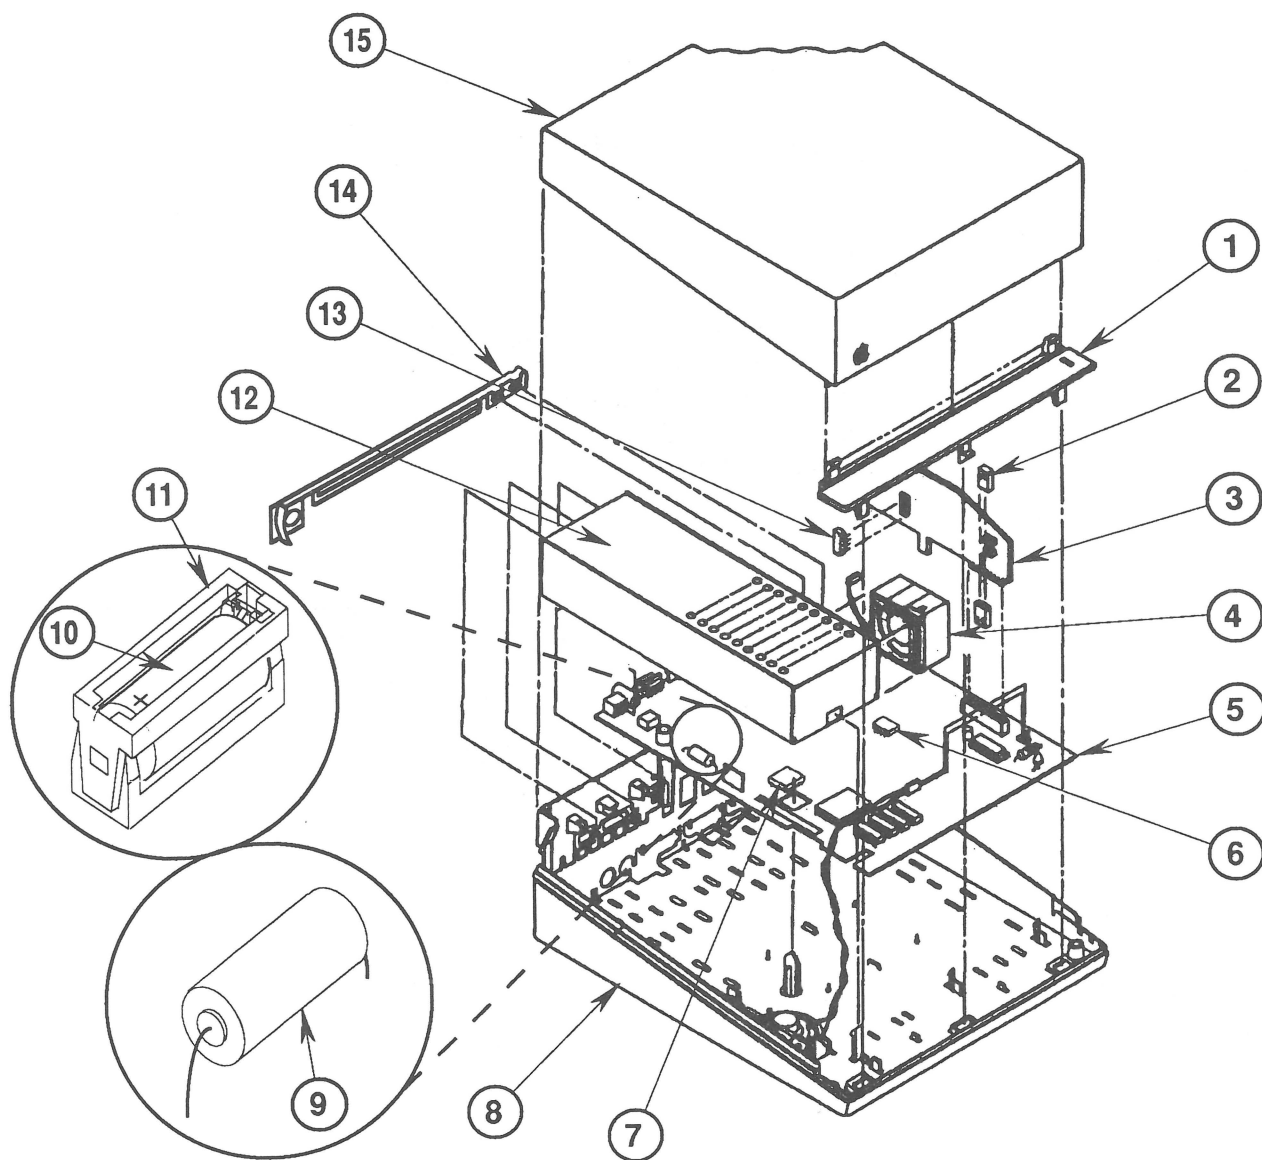

FIGURE 1
- IPL.3 Main Assembly (Figure 1)
□ APPLE IIGS—MAIN ASSEMBLY (Figure 1)